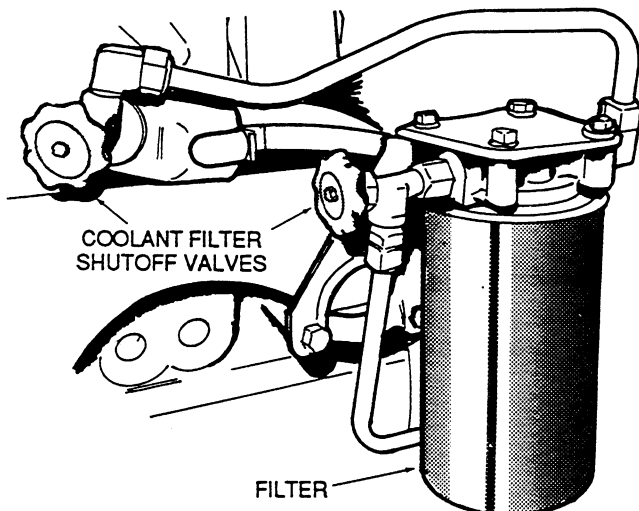

FIGURE 9. COOLANT FILTER
1. Close the shutoff valves (Figure 9).